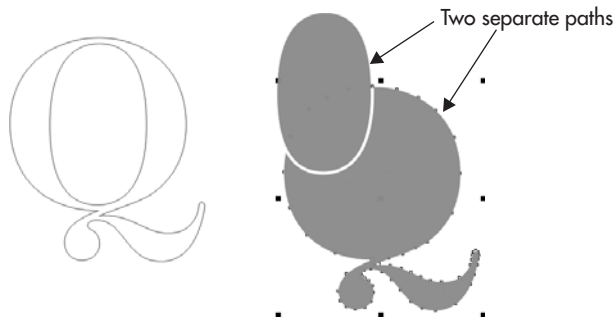

FIGURE 10-13 Break a compound path apart to work with the component objects.
4. Press CTRL+K (Arrange | Break Curve Apart). With the Pick tool, click an empty area of the page, and then click one of the objects and drag it to move it; clearly the two paths are now separate. As shown in Figure 10-13, you have just converted a compound path featuring two subpaths into two individual objects. Go back to View and restore your view quality to Enhanced.